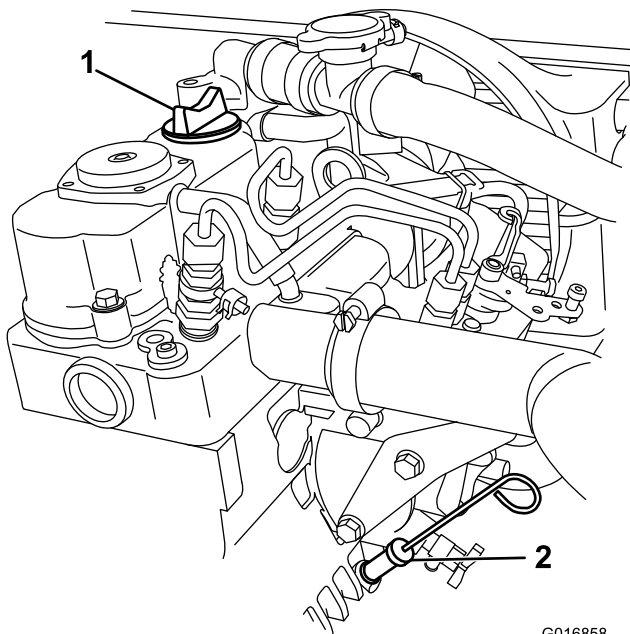

Figure 30
5. Use a rag to clean around the oil dipstick (Figure 30) so that dirt cannot fall into the dipstick tube or oil-filler neck and damage the engine.
7. Slide the dipstick into the dipstick tube and ensure that fully seats (Figure 30).
9. Install the oil dipstick and firmly seat it (Figure 30).